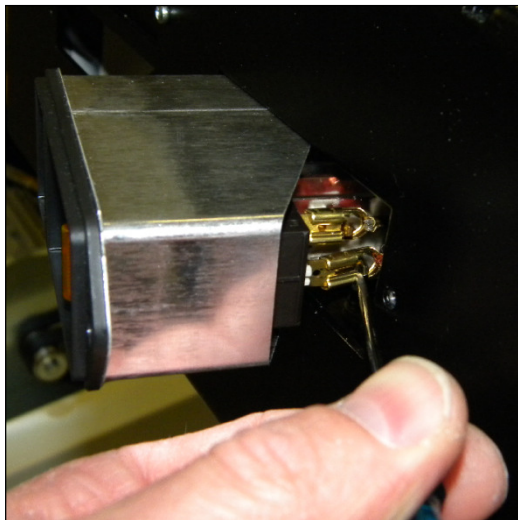

fig.11
5. Flip the two Faston connectors of by unlocking them with e.g. a small screwdriver (fig.11)